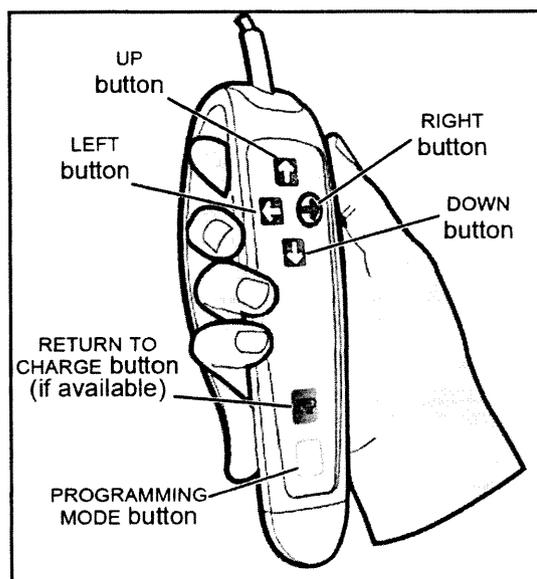

Fig. 5
The Voyager Duo's hand control unit is used to operate the ceiling lift. Each function is described in Fig. 5. The UP and DOWN buttons raise or lower the spreader bar. With the four-function model, the LEFT and RIGHT buttons activate a lateral motor to move the lift along the rail. If you have a two-function model, the lift must be moved manually.
- 2) Move the ceiling lift directly over the patient. With the four-function model, use the left and right buttons on the hand control (see Fig. 5). With the two-function model, simply hold the ceiling lift's spreader bar and drag it along the rail.